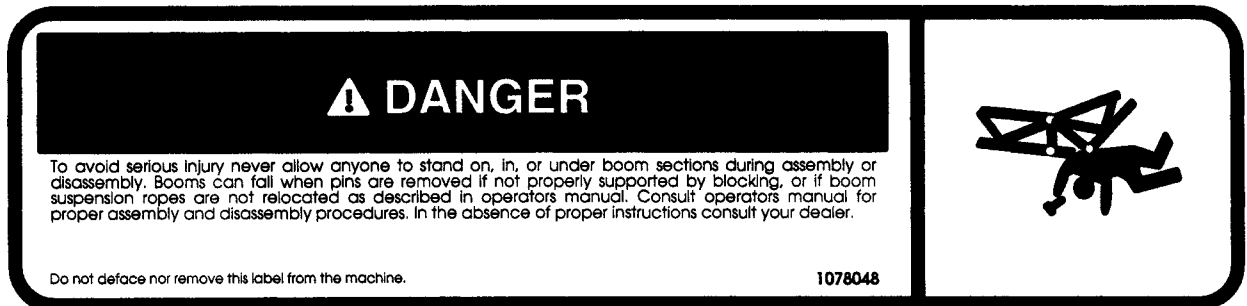

Figure 1
- I. Signs marked "**DANGER**" are posted to warn anyone in the vicinity of the machine of an immediate hazard or peril capable of causing serious injuries or severe equipment damage. This sign may also be used to prohibit any activity or practice which is hazardous. The right half of each sign carries a graphic symbol inside a red circle identifying the type of hazard or prohibiting a specific activity. The sign shown in Figure 1, for example, warns of the danger present during assembly or disassembly of boom sections. A falling boom can cause serious injury to anyone standing on, in, or under a boom section. Booms can fall when pins are removed, if not properly supported by blocking, or if boom suspension ropes are not relocated as described in the operator's manual.